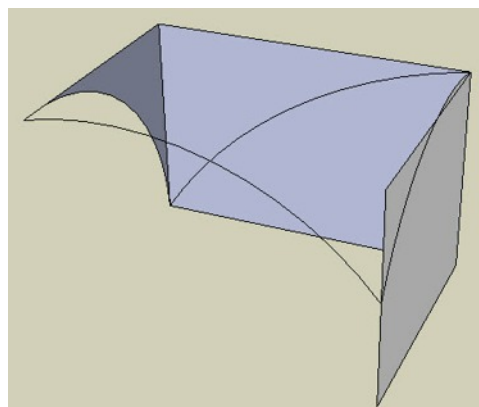

Figure 105. The lines and faces being erased
- On completion of the 4 arcs, erase the superfluous lines and faces as shown in Figure 105.